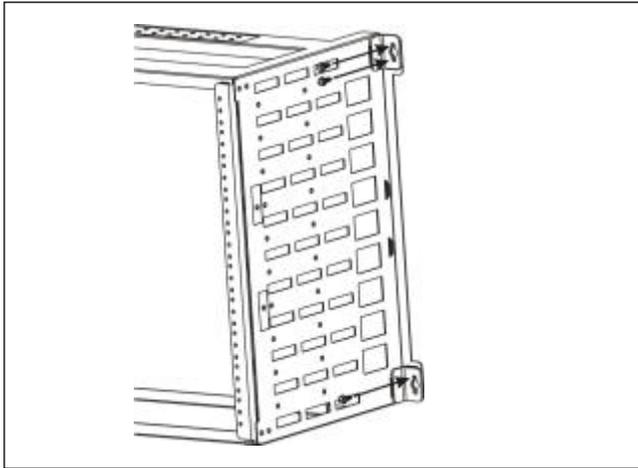

Figure 6. Mounting screw locations
- ① Select an appropriate location on a wall or backboard to install the mounting frame. Choose a mounting surface and hardware that can support the combined weight of the mounting assembly and equipment that is to be installed. Mounting to a 3/4" thick backboard with #12 x 1" screws is recommended. Maximum weight holding capacity of the WR-10U23 is 200 lbs.
- ② Determine the desired orientation of the ground lugs. The symmetrical design of the WR-10U23 frame allows it to be installed with the grounding holes facing upward or downward.
- ③ Hold the empty mounting frame firmly against the wall or backboard in a level position and mark screw locations for each of the four mounting brackets located at the rear corners of the frame. The frame will be fastened with two screws in each of the upper brackets and one screw in each of the lower brackets, as shown in Figure 6.